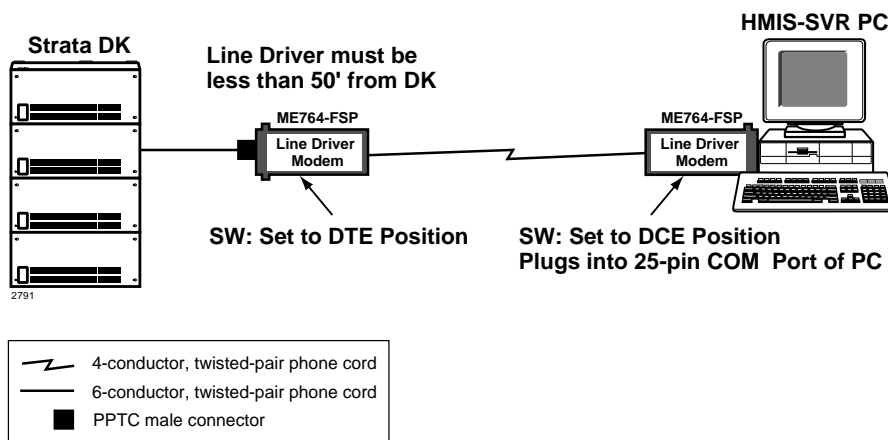

Figure 15-6 Connecting Strata DK to a HMIS-SVR PC more than 50 Feet Away
1. Connect the Strata DK TTY or SMDR port (RSIU/RSIS, RSSU, PIOU, or PIOUS PCB) to the ME764-MSP Line Driver with an RS-232 cable (see Figure 15-6). Set the switch on the Line Driver to DTE.